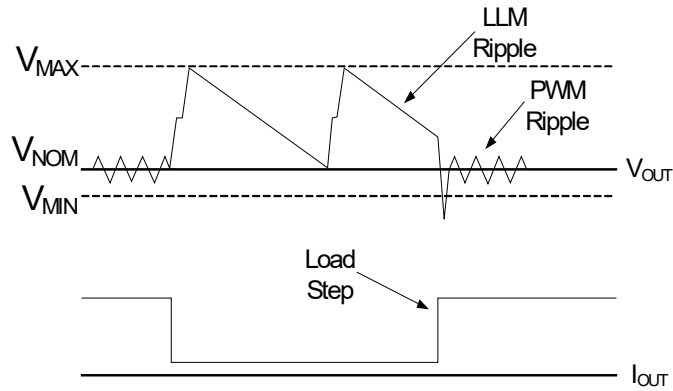

Figure 6:  $V_{OUT}$  Behavior in LLM Operation
The EP53A7xQI uses a proprietary light load mode to provide high efficiency in the low load operating condition. When the LLM pin is high, the device is in automatic LLM/PWM mode. When the LLM pin is low, the device is in PWM mode. In automatic LLM/PWM mode, when a light load condition is detected, the device will (1) step  $V_{\text{OUT}}$  up by approximately 1.5% above the nominal operating output voltage setting,  $V_{\text{NOM}}$ , and then (2) shut down unnecessary circuitry, and (3) monitor  $V_{\text{OUT}}$ . When  $V_{\text{OUT}}$  falls below  $V_{\text{NOM}}$ , the device will repeat (1), (2), and (3). The voltage step up, or pre-positioning, improves transient droop when a load transient causes a transition from LLM mode to PWM mode. If a load transient occurs, causing  $V_{\text{OUT}}$  to fall below the threshold  $V_{\text{MIN}}$ , the device will exit LLM operation and begin normal PWM operation. Figure 6 demonstrates  $V_{\text{OUT}}$  behavior during transition into and out of LLM operation.
Many multi-mode DC-DC converters suffer from a condition that occurs when the load current increases only slowly so that there is no load transient driving  $V_{OUT}$  below the  $V_{MIN}$  threshold (shown in Figure 6). In this condition, the device would never exit LLM operation. This could adversely affect efficiency and cause unwanted ripple. To prevent this from occurring, the EP53A7xQI periodically exits LLM mode into PWM mode and measures the load current. If the load current is above the LLM threshold current, the device will remain in PWM mode. If the load current is below the LLM threshold, the device will re-enter LLM operation. There will be a small droop in  $V_{OUT}$  at the point where the device exits and re-enters LLM, as shown in Figure 7. The load current at which the device will enter LLM mode is a function of input and output voltage. Figure 8 shows the typical value at which the device will enter LLM operation. The actual load current at which the device will enter LLM operation can vary by +/-30%. Table 1 shows the minimum load current below which the device is guaranteed to be in LLM operating mode.